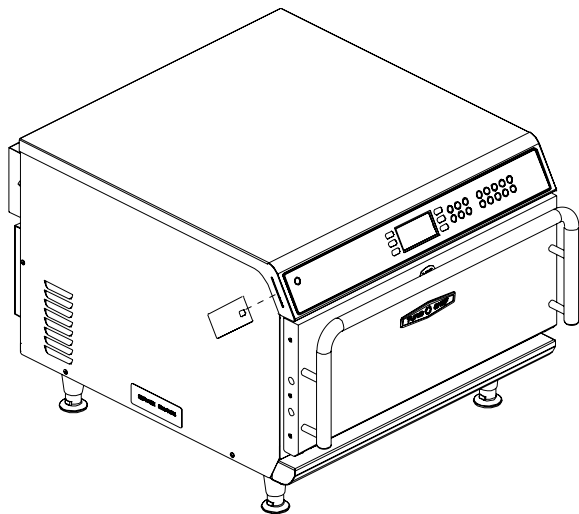

Figure 22: Inserting Smart Card into Reader
2. Insert the smart card into the smart card reader. Orient the card as shown in Figure 22.
3. Insert the smart card into the smart card reader. Orient the card as shown in Figure 22.